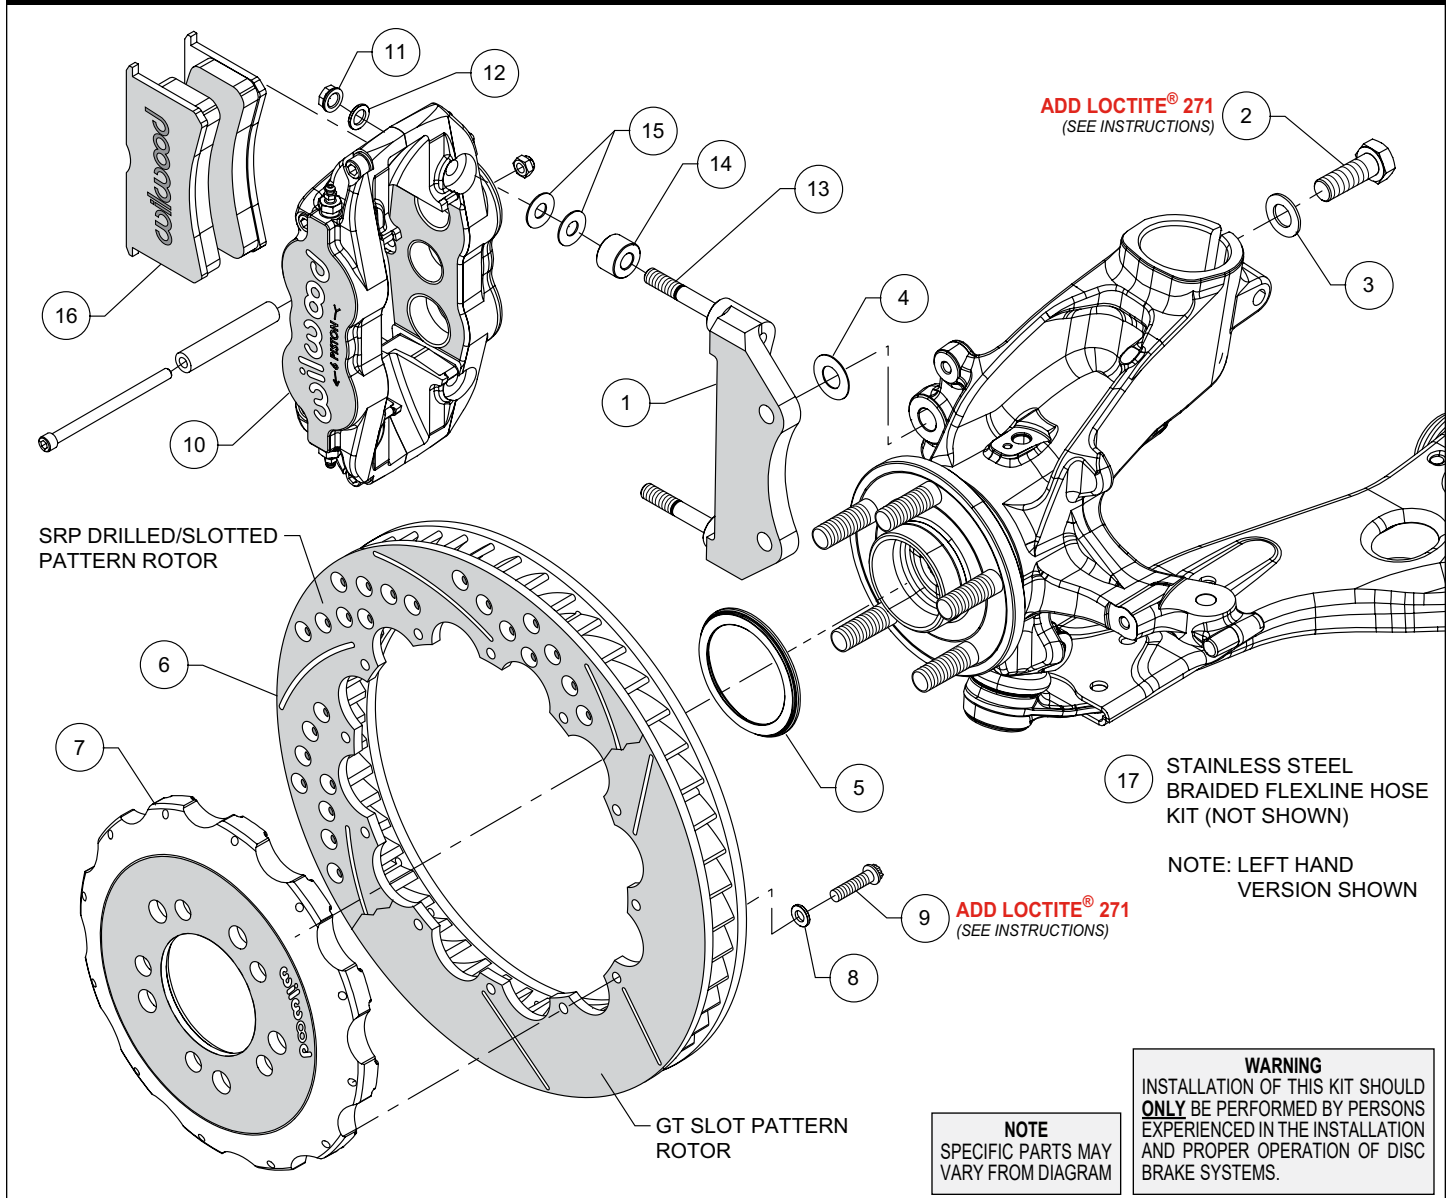
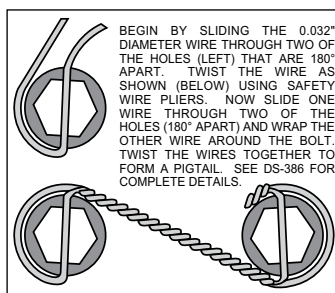

Figure 1. Typical Installation Configuration
Figure 3. Safety Wire Diagram
Assembly Instructions (numbers in parenthesis refer to the parts list and Figure 1 on the preceding pages):
- The caliper mount bracket (1) should initially be installed with clean, dry threads on the mounting bolts. Orient the bracket as shown in Figure 1 and Photo 1, and install using washers (3) and bolts (2). Initially place one .029 thick shim (4) on each bolt between the bracket and upright, Figure 1. Temporarily tighten the mounting bolts. **NOTE: The bracket must fit squarely against the mount bosses on the upright.** Inspect for interference from casting irregularities, machining ridges, burrs, etc. Later, after the caliper alignment has been checked, the mount bolts will be secured using red *Loctite*® 271.
- Orient the rotor (6) and the hat (7) as shown in Figure 1 and Photo 2. Attach rotor to hat using bolts (9) and washers (8). Apply red *Loctite*® 271 to the bolt threads and torque to 155 in-lb using a criss-cross pattern. For an added measure of security, the bolts may be safety wired using standard 0.032 inch diameter stainless steel safety wire as shown in Figure 3. Please refer to Wilwood's data sheet DS-386 (available at www.wilwood.com/Pdf/DataSheets/ds386.pdf) for complete safety wire installation instructions.
- Slide the rotor registration adapter (5) onto the axle register on the axle hub with the smaller O.D. facing outward, Photo 3. Slide the hat/rotor assembly onto the axle hub. **NOTE: The hat must fit flush against the axle hub flange or excessive rotor run out may result.** Install three lug nuts (finger tight) to keep the hat/rotor assembly in place while continuing with the installation.
- NOTE: This kit contains distinct right and left hand calipers that must be mounted in a specific direction, as described below.** Initially place two .035" thick shims (15) and one spacer (14) on each stud (13) as shown in Figure 1 and Photo 4. Mount the caliper (10) onto the bracket (1) using lock nuts (11) and washers (12), Figure 1. Ensure that the caliper is mounted so that the largest pistons are at the rotor exit end of the caliper, in relation to the direction of rotor rotation. Temporarily tighten the lock nuts and view the rotor through the top opening of the caliper. The rotor should be centered in the caliper, Photo 5. If not, adjust by adding or subtracting shims (4) between the bracket and the upright. Always use the same amount of shims on each of the two mounting bolts. Once the caliper alignment is correct, remove the bracket mounting bolts (2) one at a time, apply red *Loctite*® 271 to the threads, and torque to 60 ft-lb.